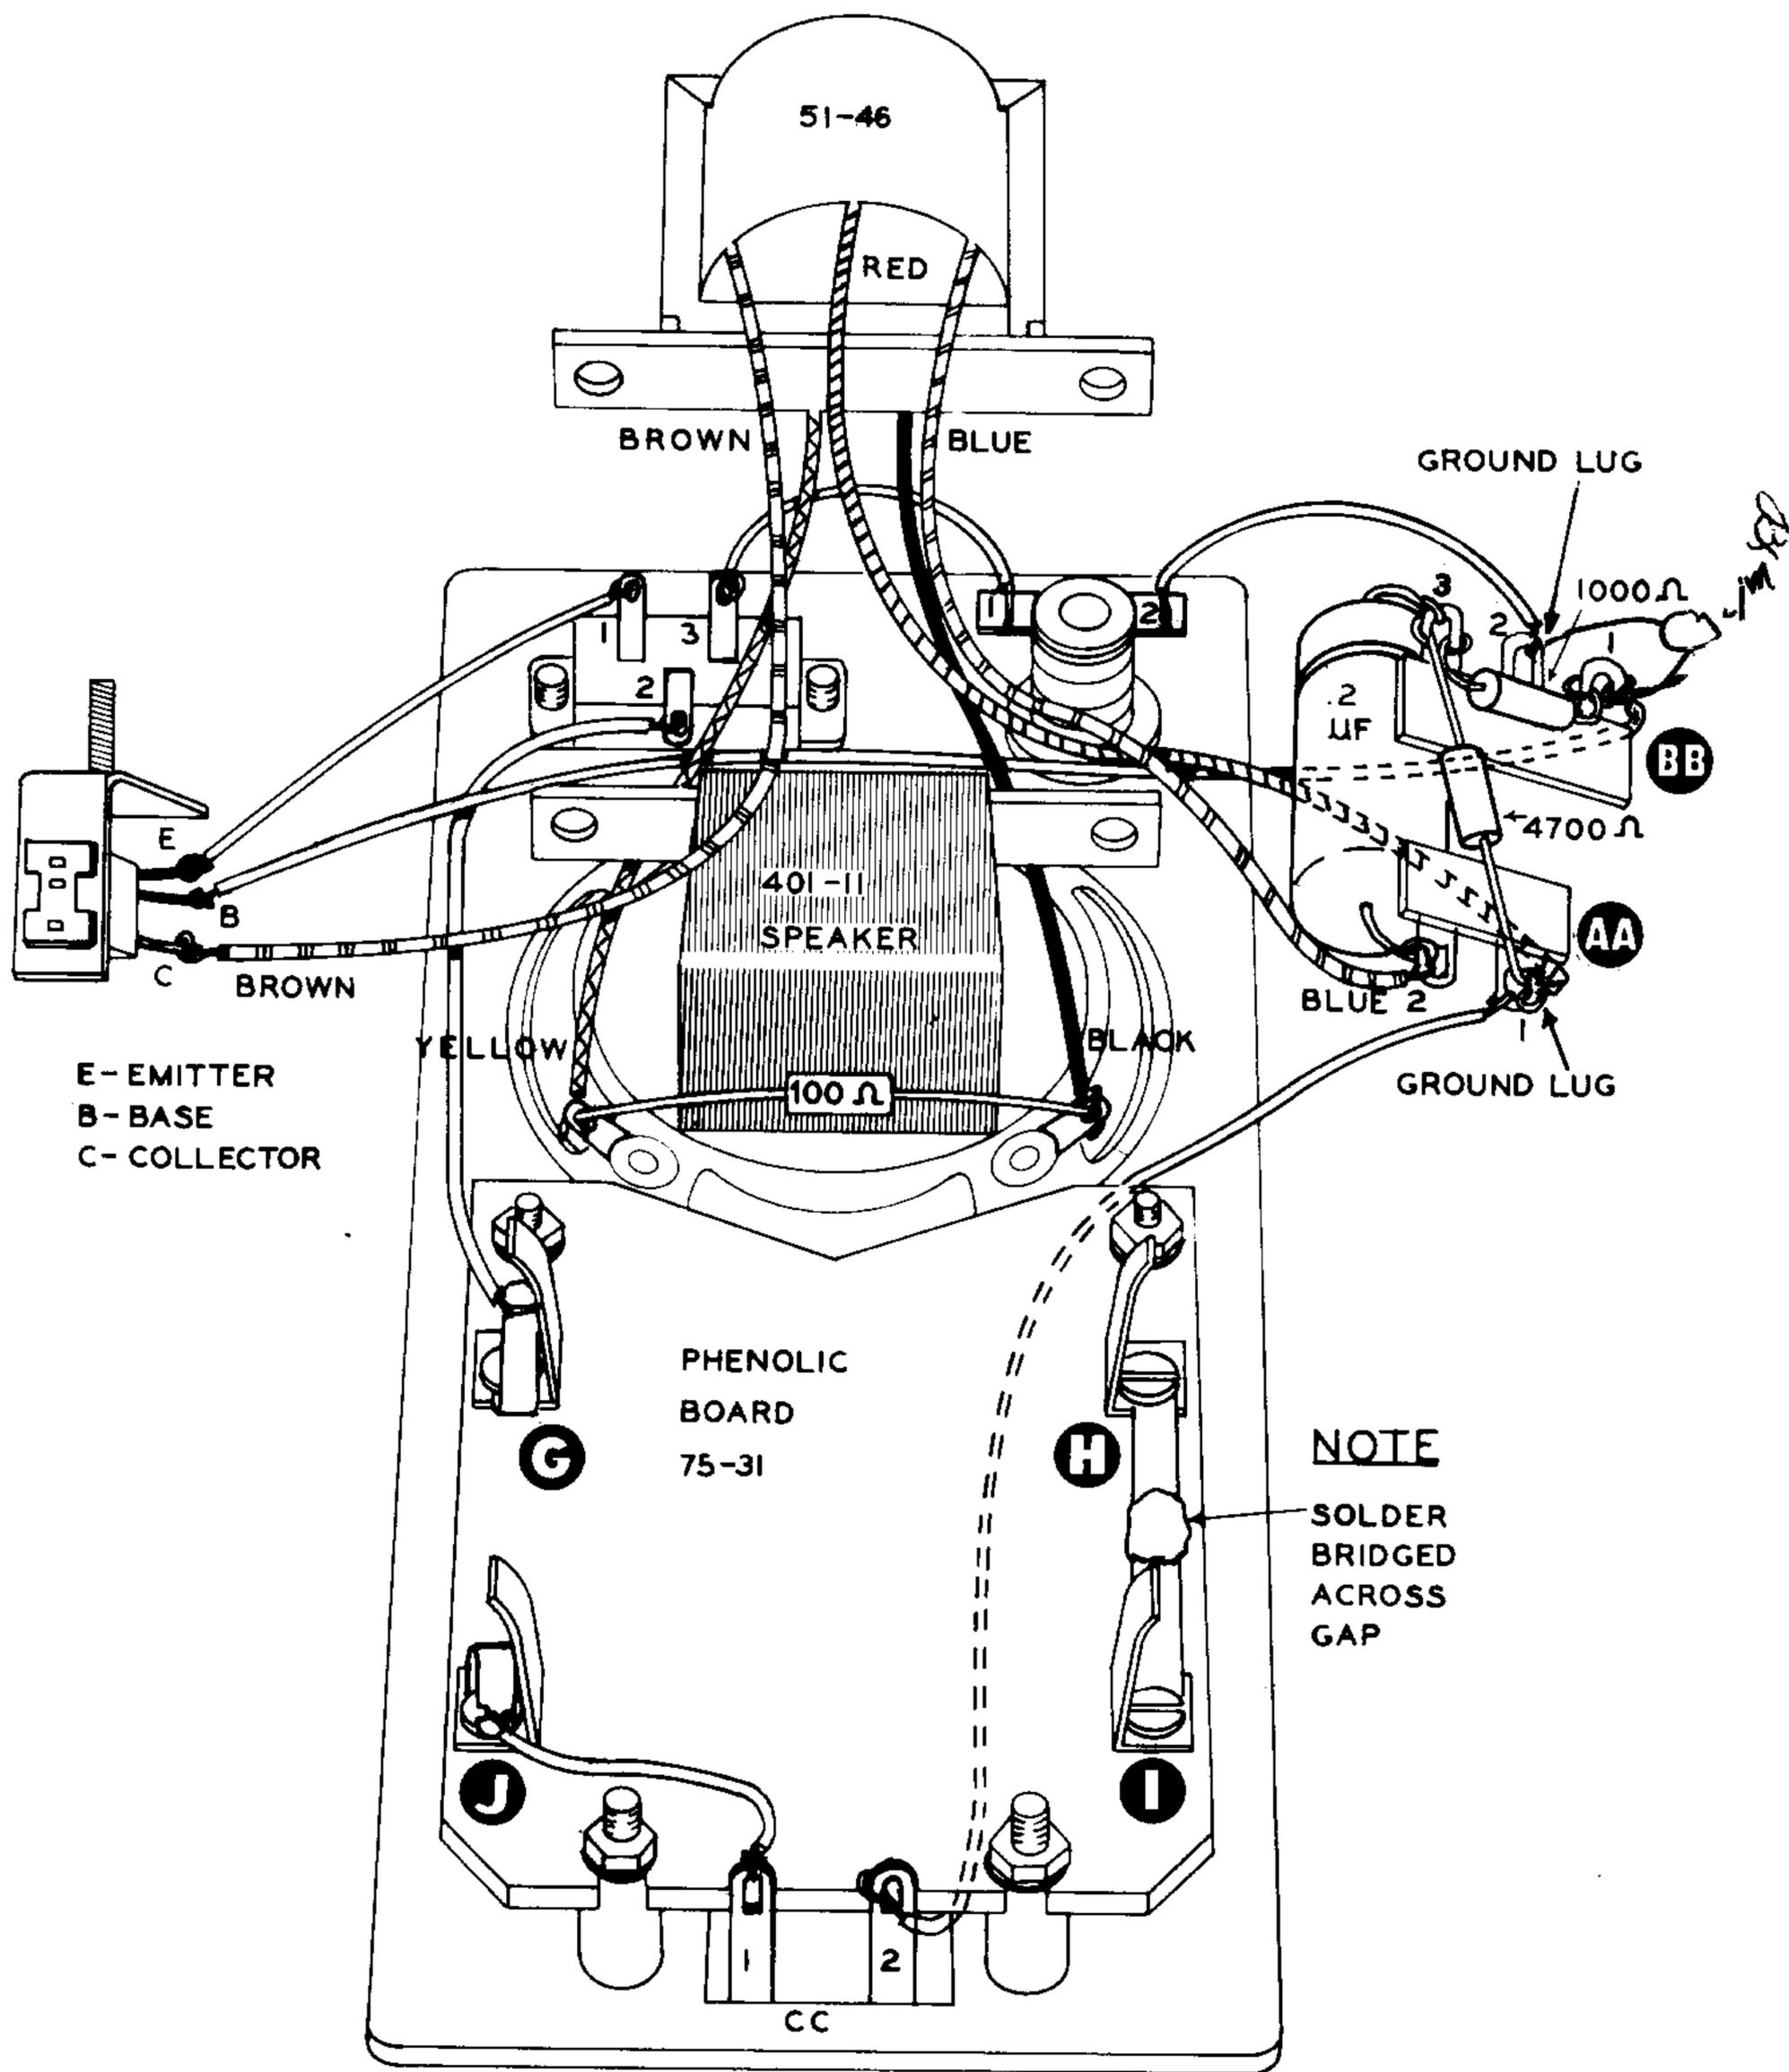

Figure 8
- ( ) Cut a piece of hookup wire 4 1/2" long. Trim 1/4" of the insulation off the ends. Refer to Figure 8, route the lead under the phenolic board and connect to lug 1 on terminal strip AA (NS). Connect the other lead end to lug 2 on terminal strip CC (S-1).
- ( ) Cut a piece of hookup wire 2" long. Trim 1/4" of the insulation off the ends. Connect one end to solder lug J on the phenolic board (S-1). Connect the other end to terminal 1 on the dual screw terminal strip CC (S-1). See Figure 8.
- ( ) Cut a piece of hookup wire 2 1/2" long. Trim the insulation 1/4". Form a small hook at one end of the lead and pinch it tight around the emitter terminal of the transistor socket (S-1). See Figure 8. Connect the other end of the lead to the SPDT switch terminal 1 (S-1).
- ( ) Form the brown lead from the transformer around the L bracket, as shown in Figure 8, and connect it to the transistor collector terminal (S-1).
- ( ) Cut a piece of hookup wire 3 3/4" long. Trim the insulation 1/4". Form a small hook at one end of the lead and pinch it tight around the base terminal of the transistor socket (S-1). Route the lead under the transformer, as shown, and connect to lug 1 on terminal strip BB (NS). Refer to Figure 8.
- ( ) Trim both leads on a 1000  $\Omega$  (brown-black-red) 1/2 watt resistor to 5/8" long. Connect one end to lug 3 on terminal strip BB (NS). Connect the other end to lug 1 on terminal strip BB (NS).
- ( ) Trim both leads on a 4700  $\Omega$  (yellow-violet-red) 1/2 watt resistor to 1" long. Connect one end to lug 1 on terminal strip AA (NS). Connect the other end to lug 3 on terminal strip BB (NS).
- ( ) Route the red lead, as shown in Figure 8, from the output transformer to the grounded solder lug 1 on terminal strip AA (S-3).
- ( ) Trim both leads on the .2  $\mu$ f paper capacitor to 3/4" long. Connect one lead to lug 2 on terminal strip AA (NS). (Pull the capacitor up tight to the terminal strips and bend the lead ends around the lugs.) Refer to Figure 8. Connect the other lead to lug 3 on terminal strip BB (S-3).
- ( ) Form a solder bridge across the two flat solder lugs H and I at the one side of the phenolic board, as shown in Figure 8. A 1/2" piece of bare wire could be used, soldered across the gap.